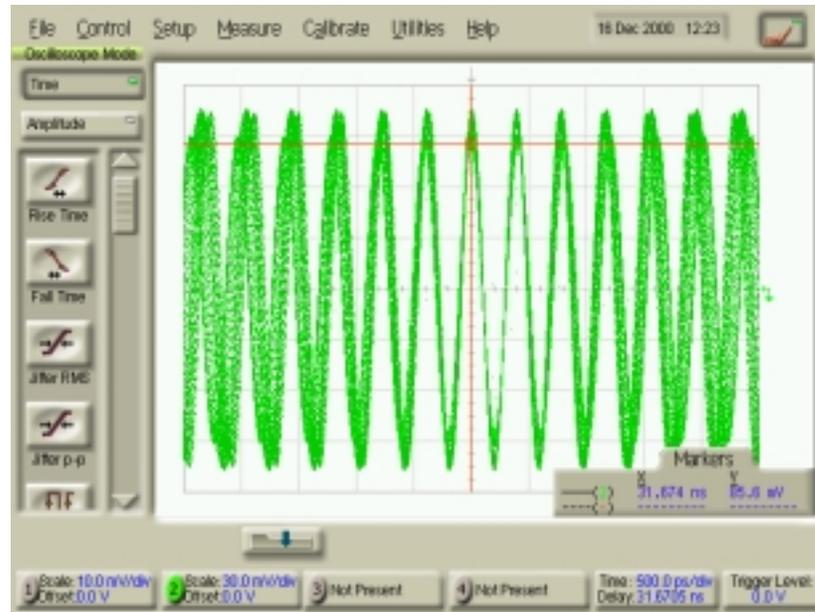

Figure 2-12. Centered Marker
- 13 Place a marker on this point. Adjust the horizontal delay until the marker is centered on the screen. Refer to Figure 2-12.